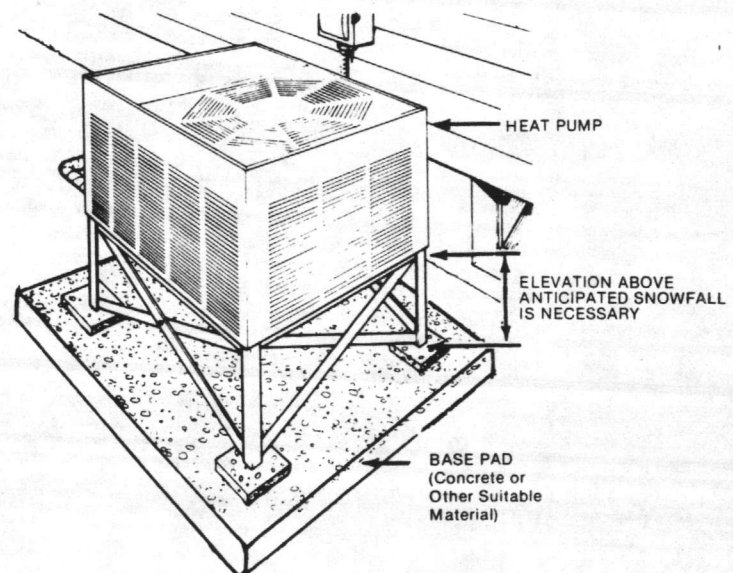

FIGURE 3. SUGGESTED MOUNTING
- Where snowfall is anticipated, the unit must be elevated above the base pad to prevent ice buildup and coil damage. Mount the unit high enough to be above the average accumulated area snowfall. See Figure 3.